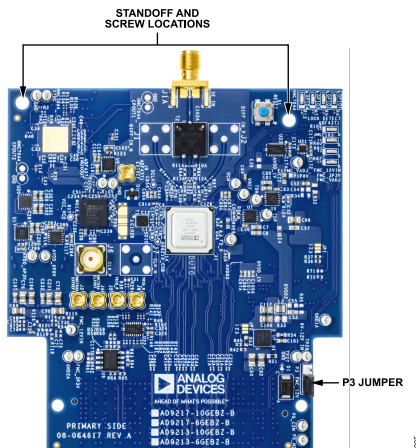

Figure 5. Standoff and Jumper Locations
1. Install a jumper on P3 as shown in Figure 5.
2. If required, you can install standoffs at the locations (see Figure 5).
1. Verify that the jumper is placed on the AD9217-10GEBZ-B as shown in Figure 5.